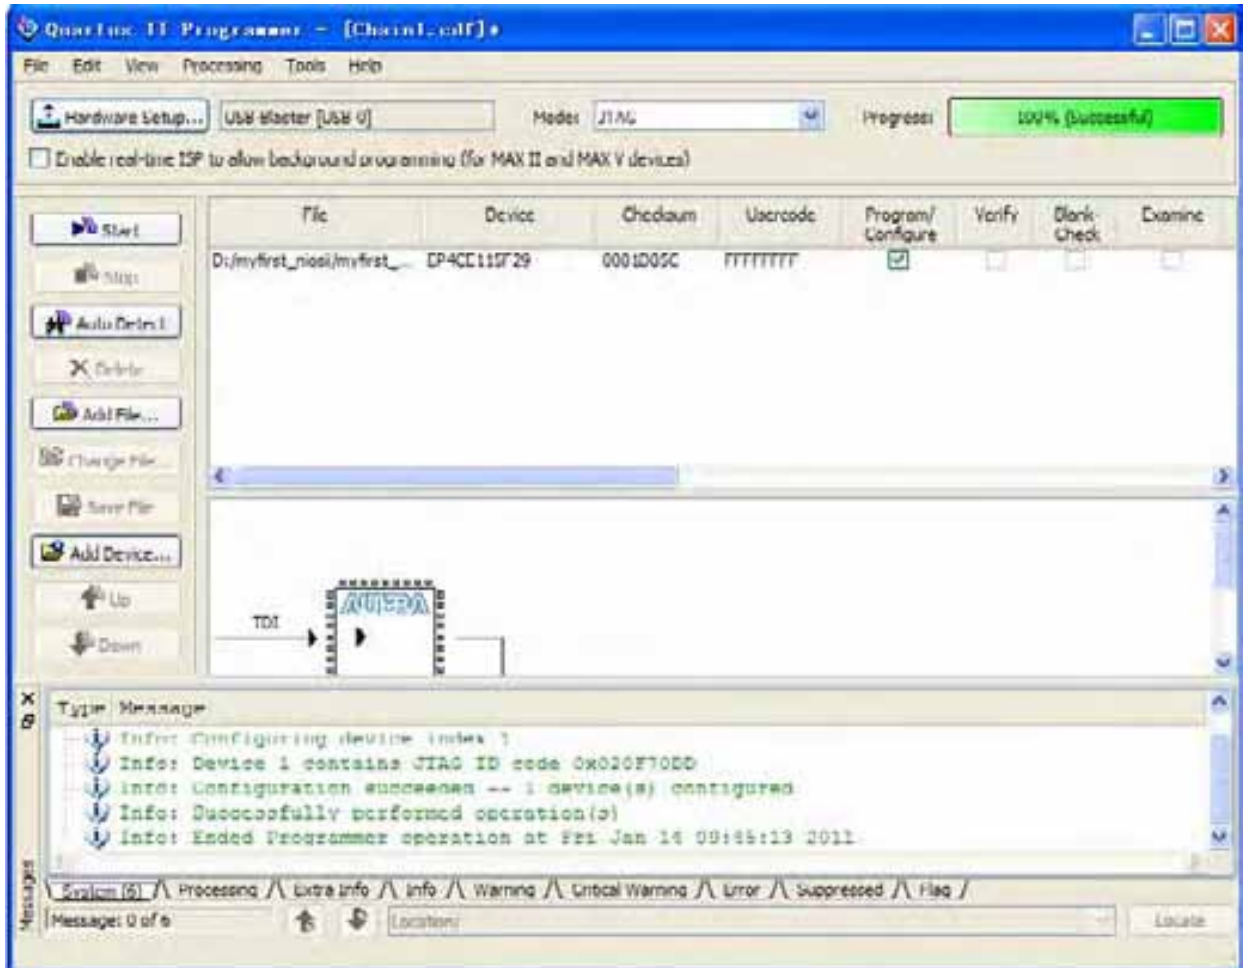

Figure 7-54 Quartus II Programmer
14. Make sure the **Program/Configure** option for the programming file (see Figure 7-54 for an example).